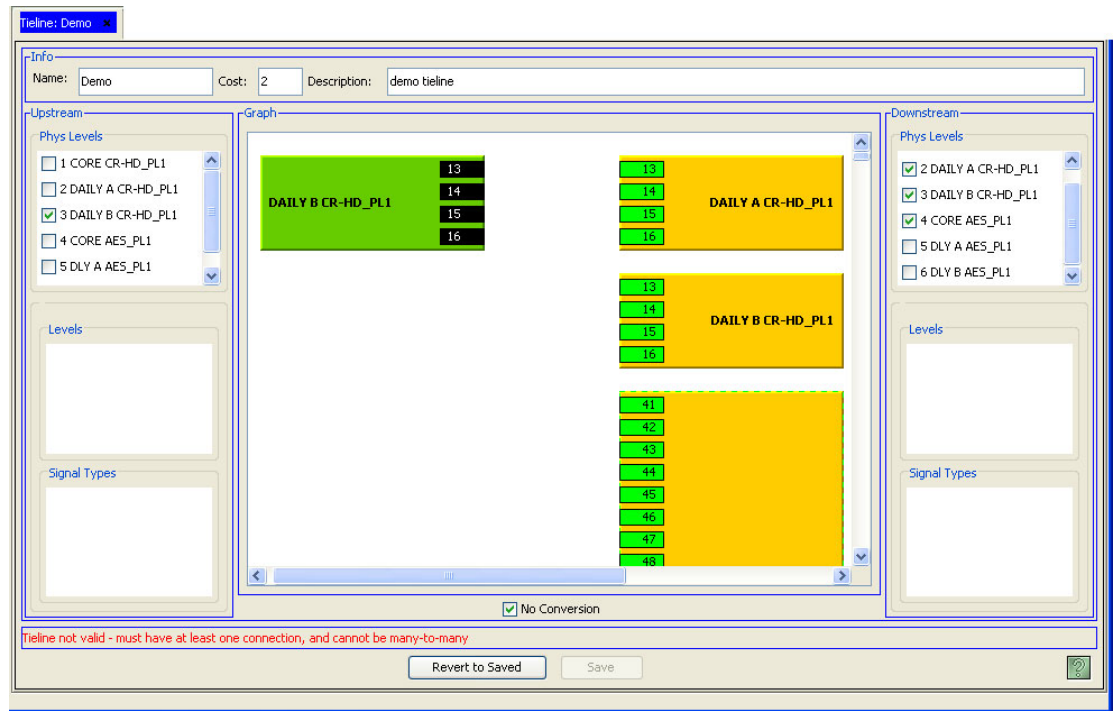

Figure 16-17. Tieline Details Page — New Tieline
- In the 'Upstream' section, check the check box next to the new source router, if needed. The router displays as a green figure in the 'Graph' field, as shown in Figure 16-17. Only one upstream device may be selected.